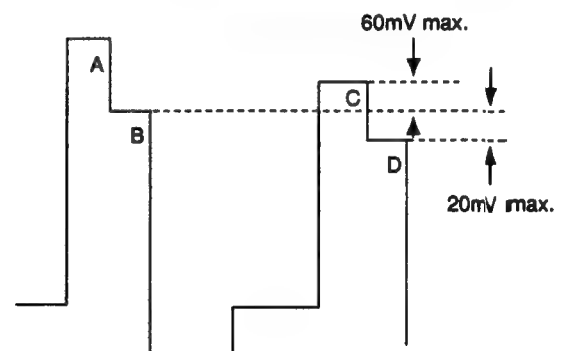

Fig. 5-32
- 2) Connect the probe of an oscilloscope to IC404 ④ PIN or TP401.
- 4) Adjust **[R-Y LEVEL SECAM]** so that the peaks of waveforms will be flush with each other as shown in Fig.5-32.